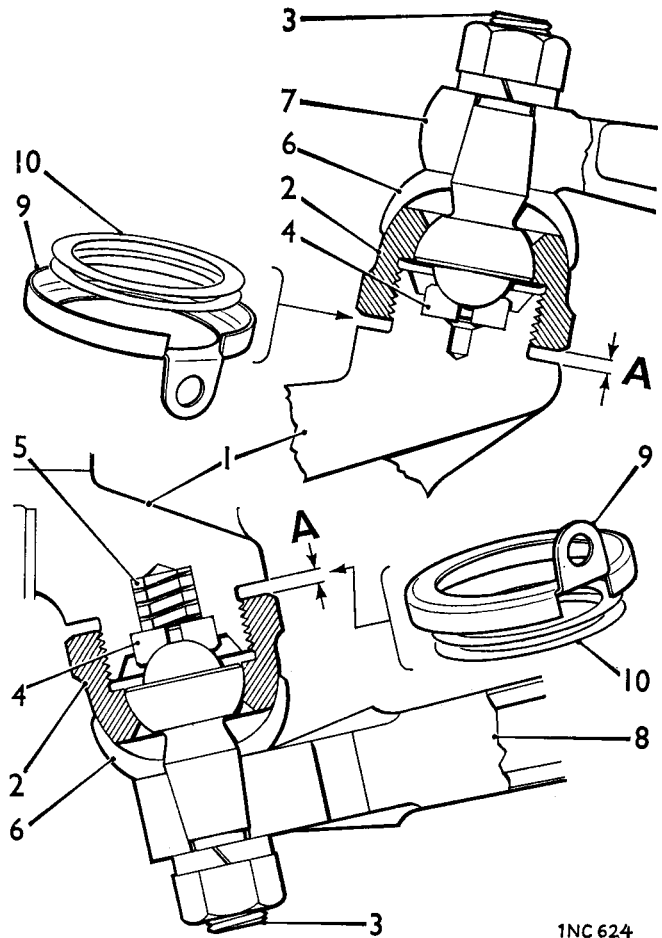

Fig. K.6
10. Screw down the ball pin retainer until there is no free movement between the ball pin and its seating. Measure the gap between the retainer and the swivel hub, see Fig. K.6.